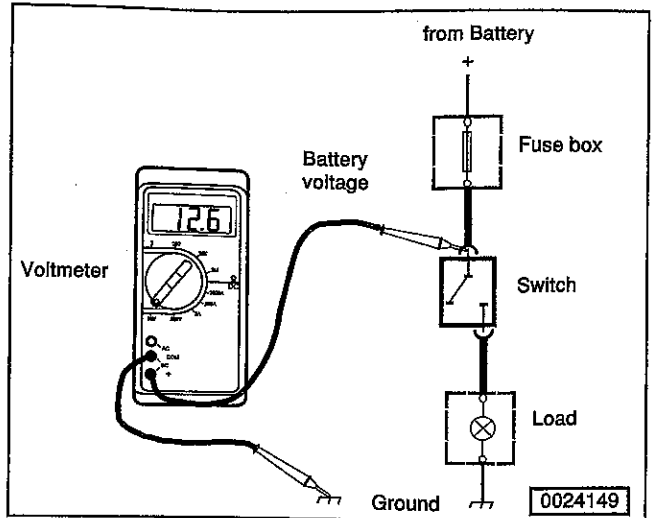

Fig. 1. Voltmeter being used to check for voltage.
2. Connect the voltmeter positive lead to the point in the circuit you wish to measure. See Fig. 1.